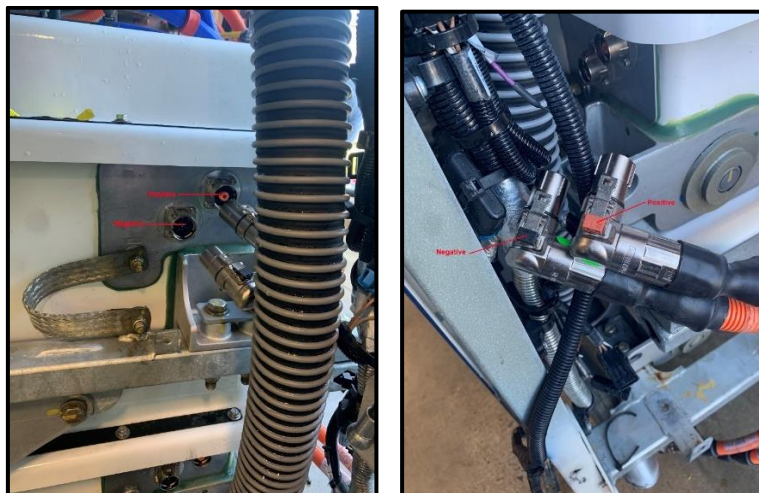

Figure 14: HV Cable Connection Location References.
50. Disconnect HV cables from both ESS packs. Note: Positive and negative connections are color coded by color when reconnecting. See Figure 14.